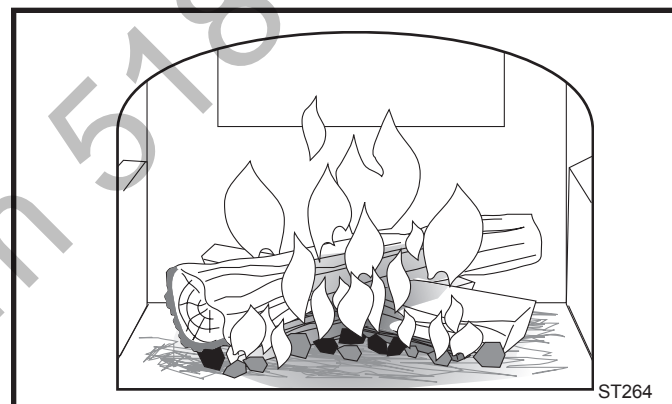

Fig. 28 Gradually add larger pieces of wood until all the wood is burning well.
Step 3. Light the newspaper and close the doors. Gradually build up the fire by adding a few 3-5" (80-120 mm) diameter splits. (Fig. 28) If this is one of the first few "break-in" fires, let the fire burn brightly, and then let it die out.